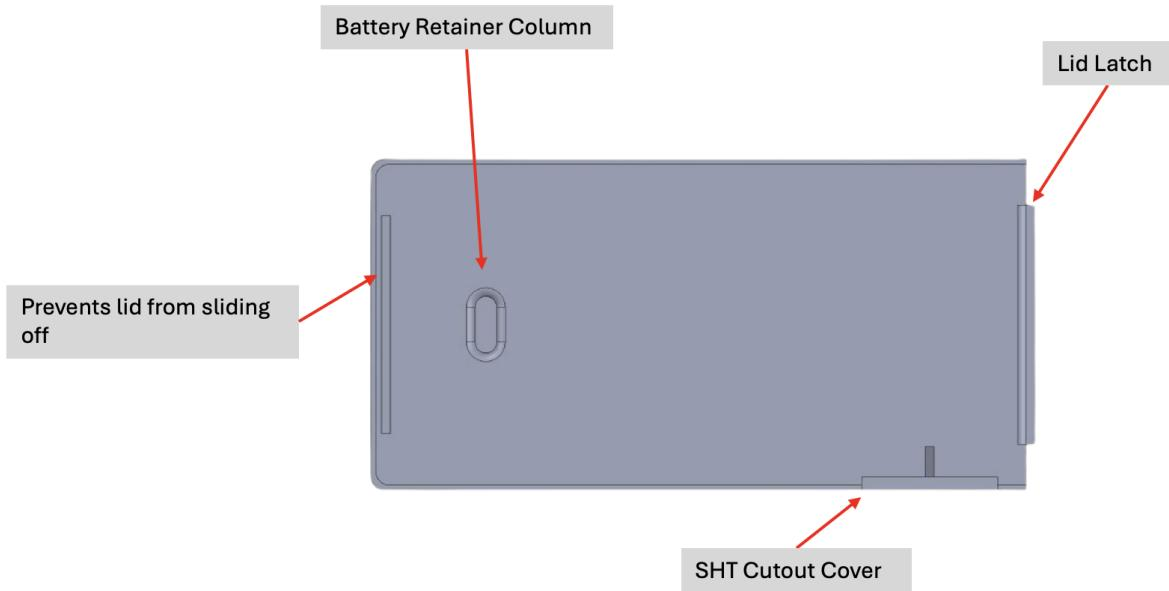

Figure B3: Main Housing Lid
**Step 2:** While maintaining step 1, slowly close the lid until contact between the lid's SHT cover (shown in Fig B3) and the main housing wall touches. Push the lid's SHT cover into the body and or push the main housing wall away from the body so that they overlap.